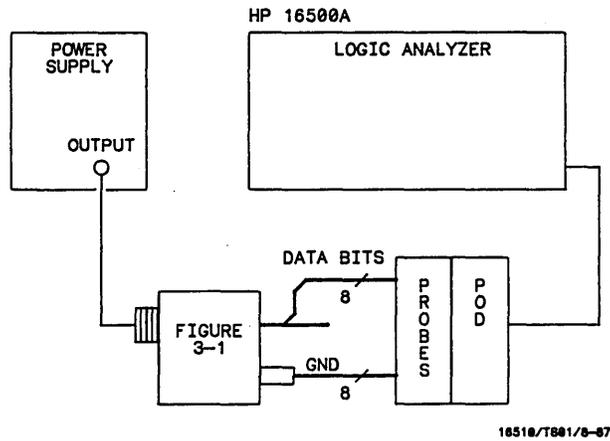

Figure 3-46. Setup for Dynamic Range Test
1. Connect the test equipment as in figure 3-46.